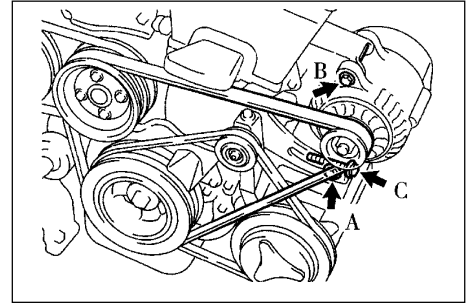

Figure 1-9
1. Remove the V-belt of the generator (see Figure 1-9).
- (1) Adjust the tension of the belt of the air conditioner by fastening the bolt B.
- (2) Fasten the nut A. Torque: 39N.m.
8. Mount the V-belt of the generator (see Figure 1-9).